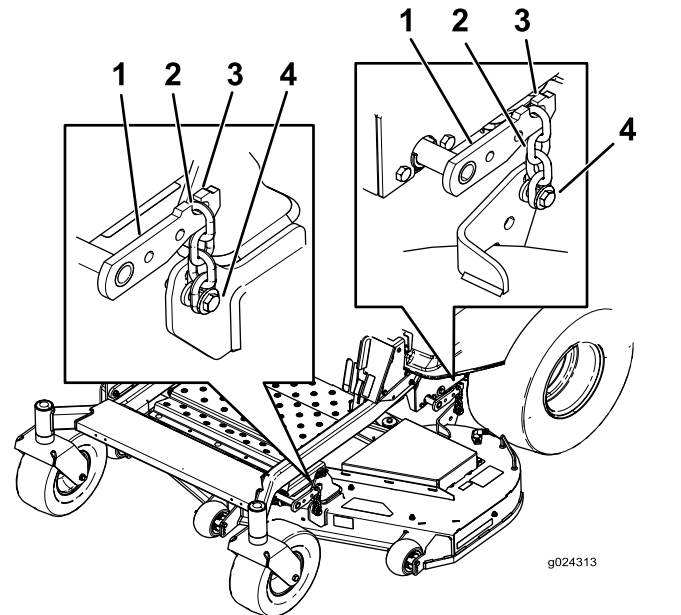

Figure 68
- Remove the chains from the hooks on the deck-lift arms (Figure 68).
6. Lift the rear of the mower deck and attach the chains to the rear lift arms (Figure 68).
7. Attach the front chains to the front lift arms (Figure 68).